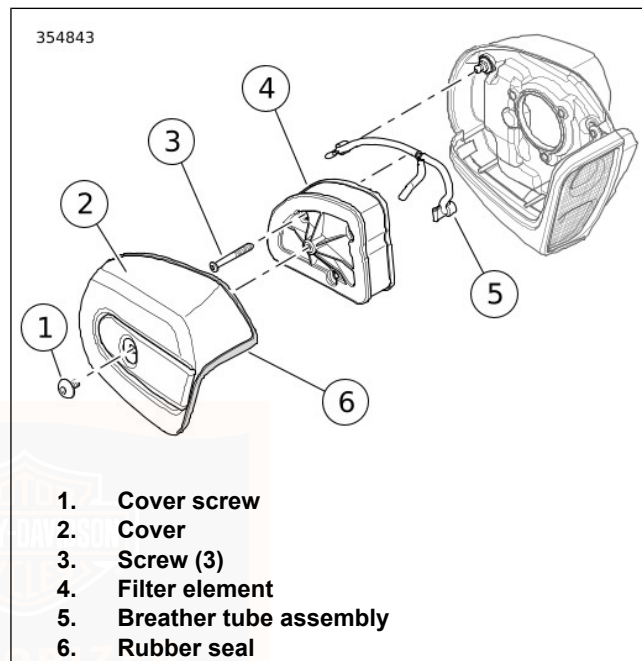

Figure 73. Air Cleaner Assembly
1. See Figure 73. Remove screw (1) and air cleaner cover (2) with rubber seal (6).
2. Remove three screws (3).
3. Remove filter element (4) pulling breather tube from hole on inboard side.
4. Remove breather tube (5) from breather bolts.
1. See Figure 73. Install breather tube (5) onto breather bolts.
2. Install filter element (4) while pushing breather tube into element.
3. Install screws (3). Tighten screws to 4.5–6.8 N·m (40–60 **in-lbs**).
4. Verify that rubber seal (6) is not damaged and is properly seated around perimeter of air cleaner cover.
5. Place air cleaner cover onto backplate. Apply a drop of LOCTITE 243 MEDIUM STRENGTH THREADLOCKER AND SEALANT (blue) to the threads of screw (1). Install screw. Tighten to 4.1–6.8 N·m (36–60 **in-lbs**).